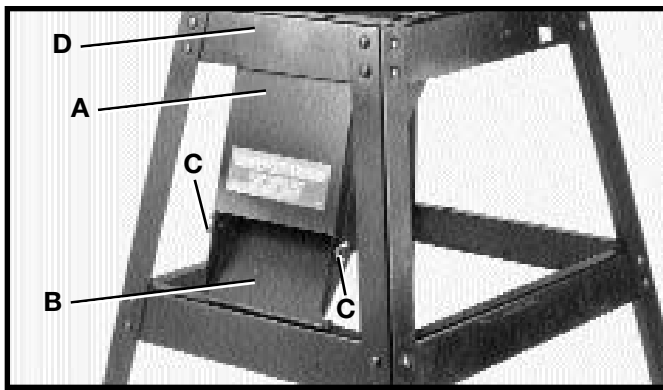

Fig. 14
1. Assemble dust chute cover (A) Fig. 14, to dust chute (B) using two wing screws (C). **IMPORTANT:** Top of dust chute cover (A) must be inside top end brace (D) of stand and should completely cover the top of the dust chute.
1. Remove two wing screws (C) Fig. 14, from dust chute cover (A).